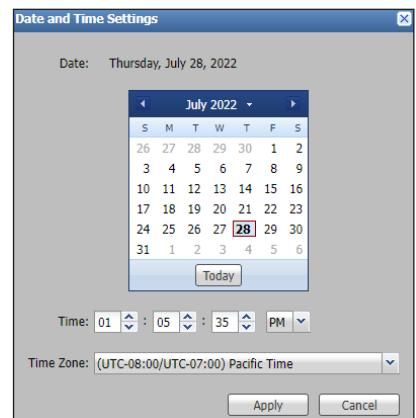

Figure 35. Calendar
- Click **Sync to PC** (1) to sync the date and time on the device to the date and time on the host computer.
- Click **Set Manually** (2) to set the date, time, and time zone, The Date and time Settings dialog box opens (see figure 35).